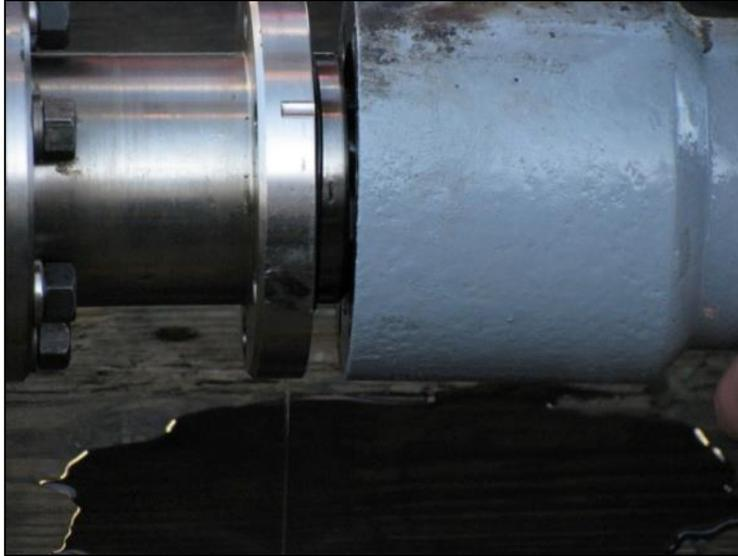

Figure 4: Gauge Stabbed into the Motor Base
4. Once the sensor has been stabbed as far as shown in **FIGURE 4**, finger-tighten two of the motor base bolts at the top and bottom of the sensor to help support the sensor weight. **DO THIS BEFORE PROCEEDING TO STAB THE SENSOR FULLY INTO THE MOTOR BASE.**